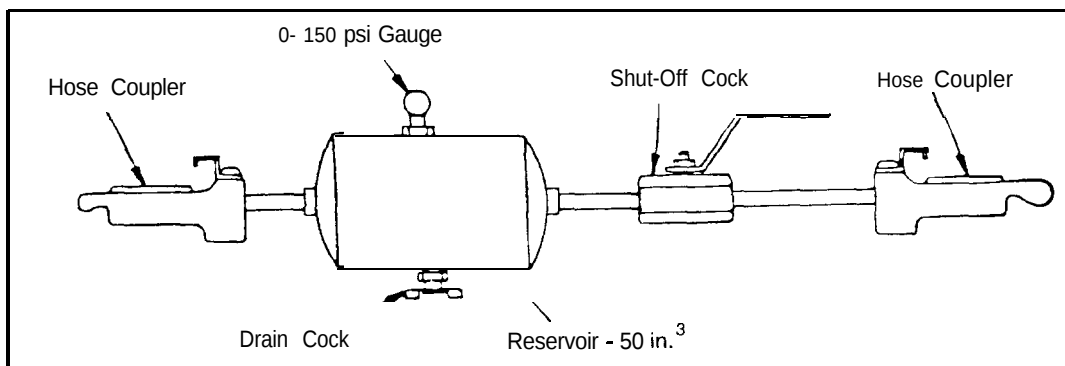

Fig. 1: 50 Cubic Inch Reservoir Test Unit
2. Two 50 cubic inch tank test units (see **Fig. 1**)